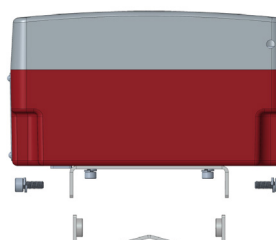

Figure 8: Secure the bracket
3. Align the transmitter's bracket with the mounted bracket. Use a 4 mm hex tool to secure the 4 provided screws from the sides through the mating holes. See *Figure 8*.